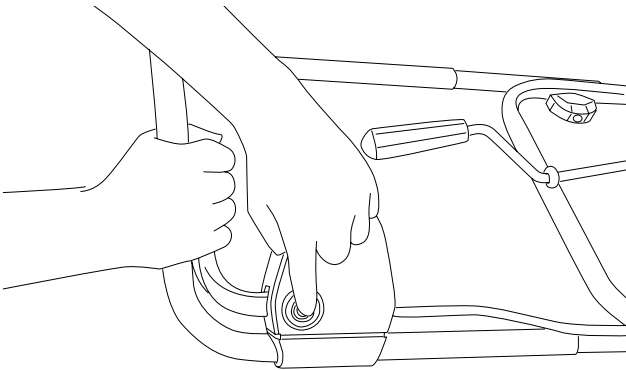

Figure 16
2. While holding the Safety Switch Button in, pull the ON/OFF Switch Lever toward you. Release the Safety Switch Button and run the machine (Fig. 16). The machine can only be started by pressing the Safety Switch Button first, followed by squeezing the ON/OFF Switch Lever, reverse operation cannot start the machine.